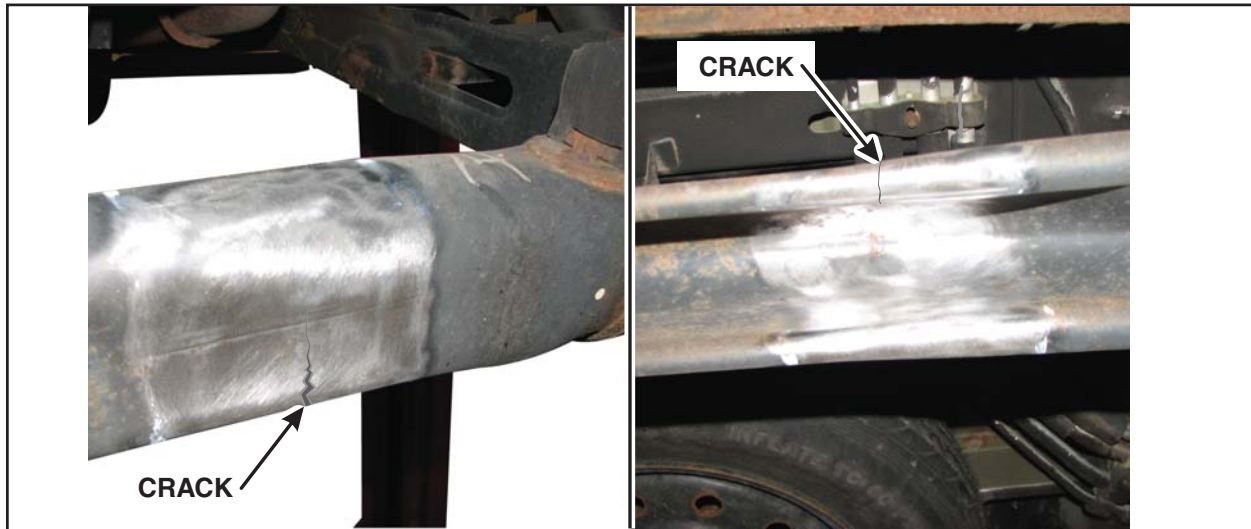

FIGURE 3
4. Visually inspect the entire rear axle beam for cracks or perforations (holes). See Figures 3 and 4.